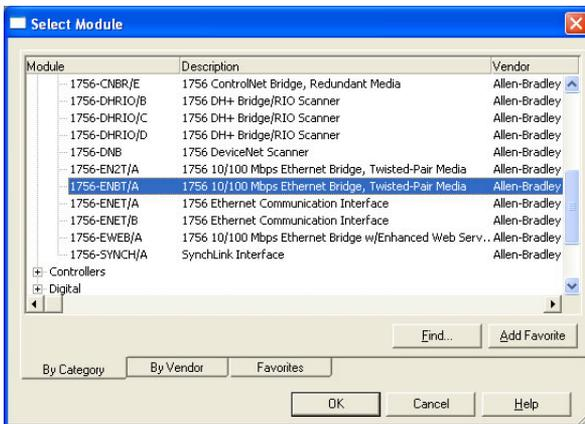

Figure 80: Adding a New 1756-ENBT/A Module
- 5) Under “Communications”, select “1756-ENBT/A”, and click OK. Refer to Figure 80.